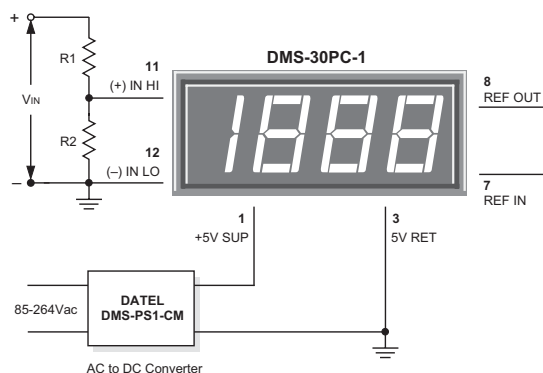

Figure 4. Input Attenuation Circuit
- 3. Engineering Scaling:** For measuring voltages greater than the full scale input range of a given meter, the input signal must be attenuated. A simple voltage divider (similar to that shown in Figure 4) will scale the input to within the range of the selected meter. R1 and R2 should be precision, $\pm 1\%$, metal-film resistors with absolute TCR's less than $50\text{ppm}/^\circ\text{C}$. See Ap Note 4 for more information on engineering scaling.